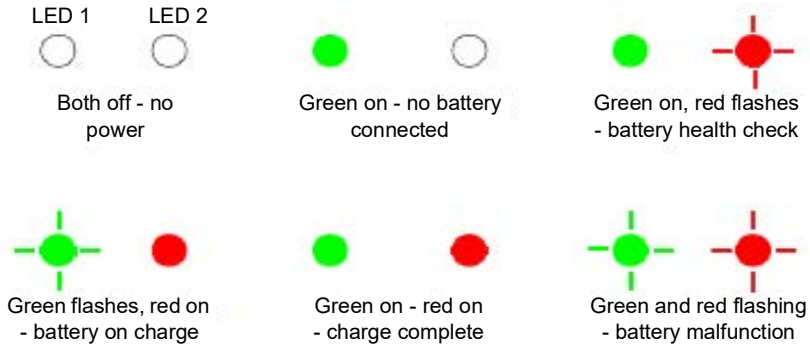

Figure 1-7: Battery Charge & Charger Status
- Switch on the mains power supply. LED1 and LED2 on the charger will show the different operation conditions, as shown in Figure 1-7 below.